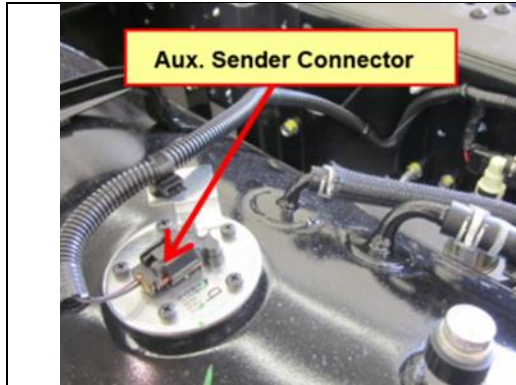

Figure 10
6. Disconnect the harness connectors at the Auxiliary fuel tank and Auxiliary Fuel Pump. Cut and remove any remaining tie straps and loosen the harness. (See Figures 10 and 11.)